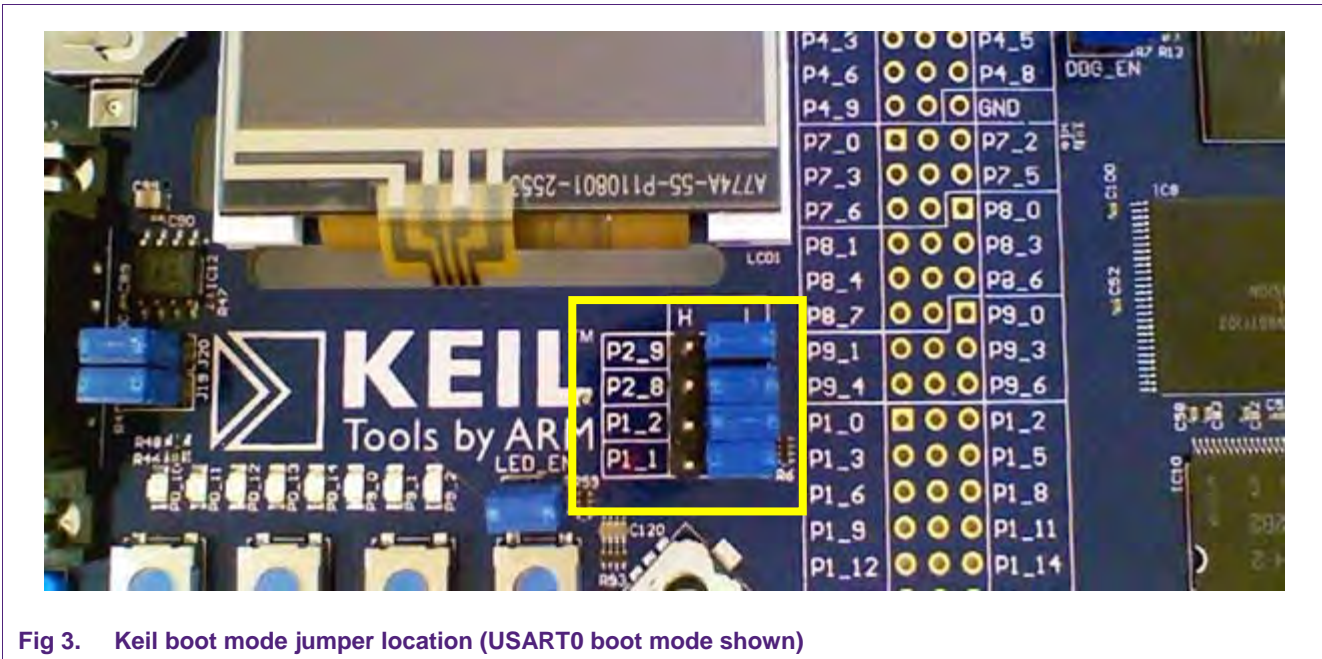

Fig 3. Keil boot mode jumper location (USART0 boot mode shown)
- Fig 3. Keil boot mode jumper location (USART0 boot mode shown)6